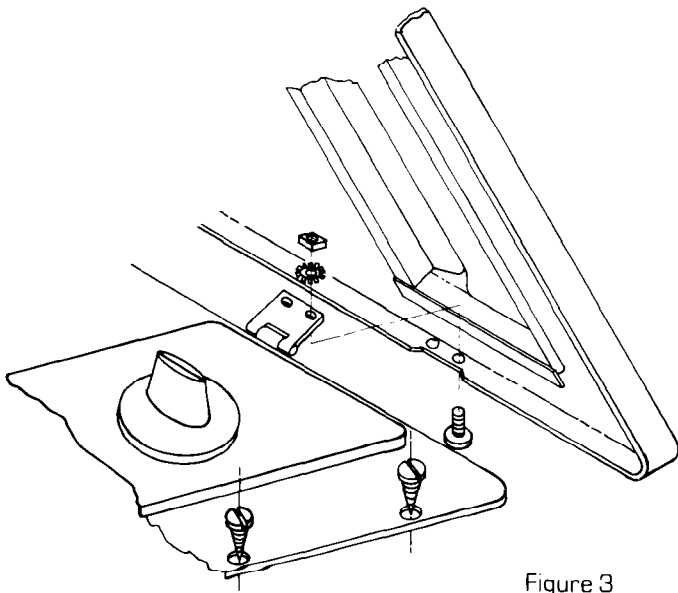

Figure 3
1. Mount hinges to main top as shown in Figure 3. NOTE: Hinges and attaching bolts, nuts, washer are in plastic bag inside of burner box.